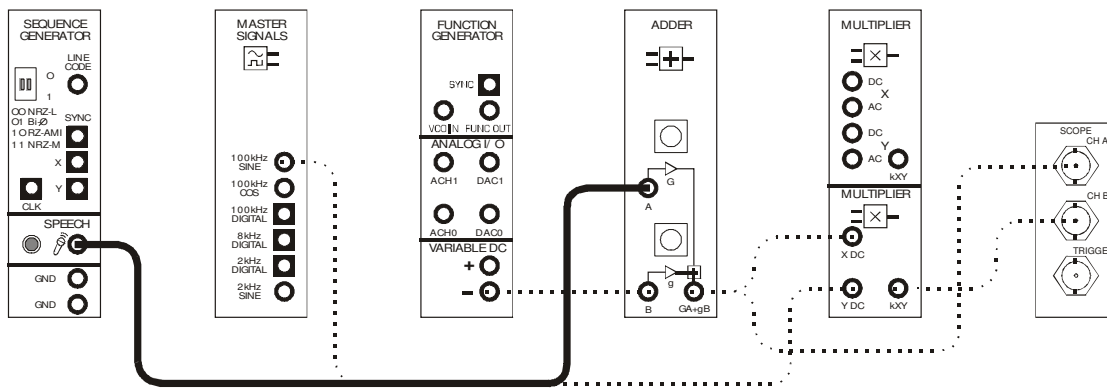

Figure 8
33. Connect it to the Speech module's output as shown in Figure 8 below.